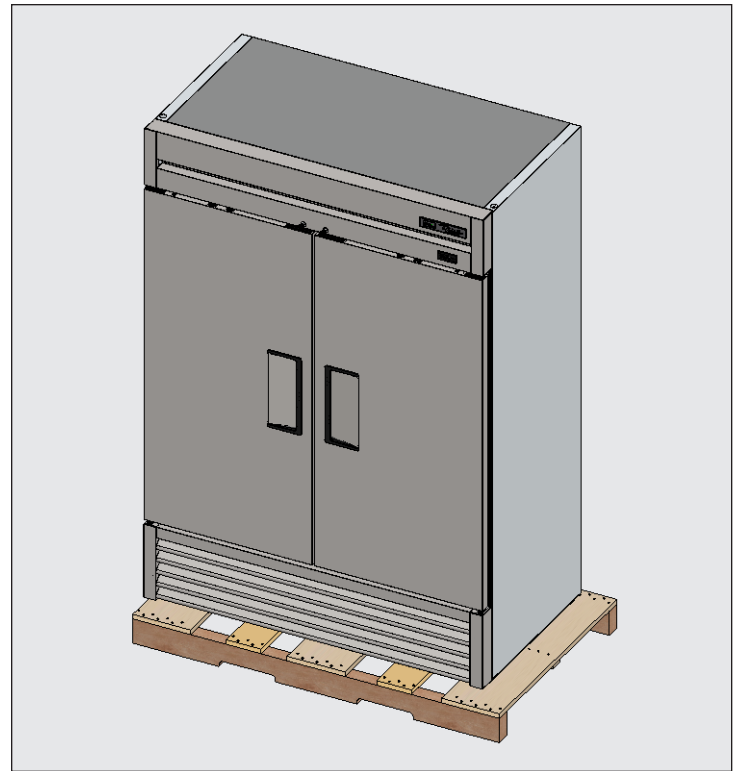

Fig. 1. Remove outer packaging. Inspect for concealed damage.
1. Remove the outer packaging (cardboard and bubble wrap or Styrofoam corner and clear plastic). Inspect for concealed damage. See fig. 1. **Again, immediately file a claim with the freight carrier if there is damage.**